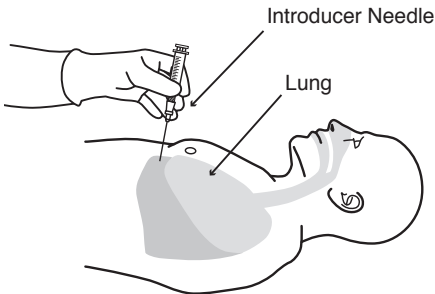

Fig. 1
7. Attach guidewire introducer with needle to syringe. Insert into desired location for guidewire placement. (Figure 1)